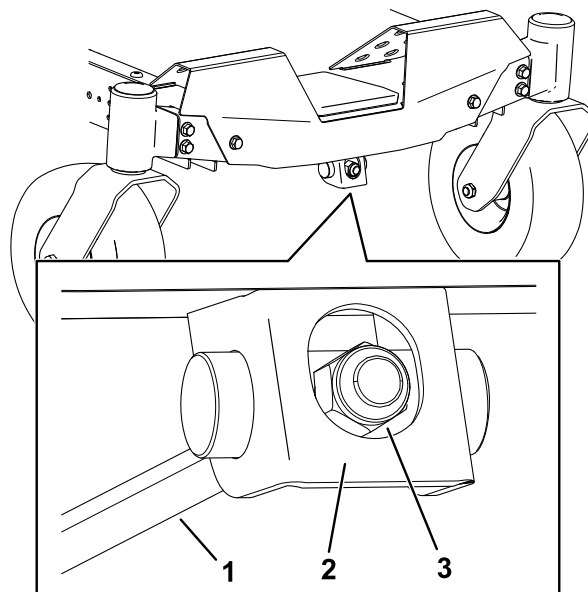

Figure 73
1. Rotate the adjustment nut in the front of the mower (Figure 73).